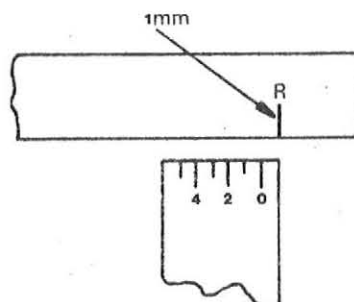

Figure 7-2
3.1.2 Retracted switch adjustment (Figure 7-2)